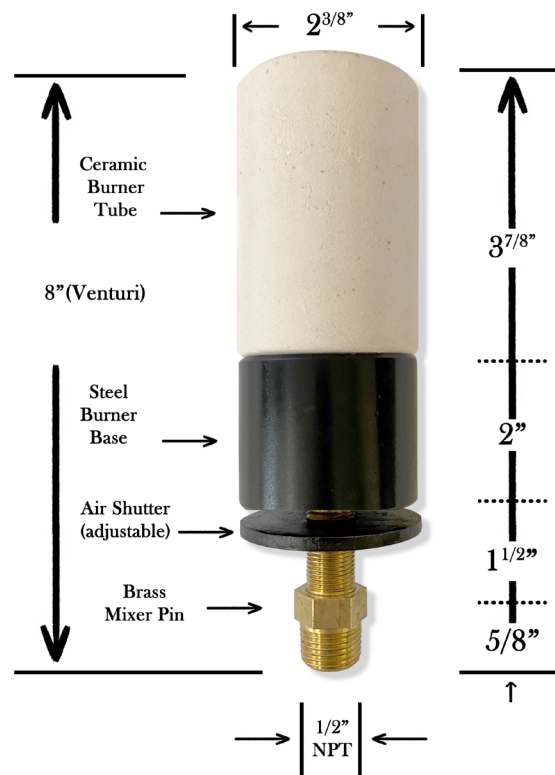

Figure 6
1. Depending on the frequency of your firings you should inspect the kilns burners. You can unscrew them from the brass mixer pin and make sure that the burner tubes are clean and free of any obstruction. **(See Figure 6).**
2. Check the air shutter and make sure that it turns smoothly and that it is adjusted properly. Normally, these shutters should be adjusted to approximately $\frac{1}{2}$ in. to $\frac{5}{8}$ in. open from the bottom of the metal burner tube. **(See Figure 6).**
Your Laguna kiln utilizes high efficiency, natural draft, ceramic tip (**Figure 6**), venturi burners. Prior to shipping, your kiln was test fired, and the burners were adjusted to ensure the proper air-to-gas mixture. Although not likely, it is possible that during the shipping and installation of your kiln one or more of the air shutters (**Figure 6**) were inadvertently rotated changing the gas-to-air mixture and subsequently the quality of the flame.
1. Open the air shutter on each burner approximately $\frac{5}{8}$ inch (**Figure 6**).